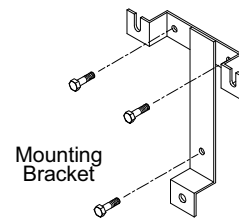

FIGURE 3
Holding the bracket with the slotted extensions away from the wall, mark the locations for three mounting bolts. (Figure 3)
4. Anchor the mounting bracket to the wall. Selection of mounting fasteners will depend upon wall construction. (Figure 3)